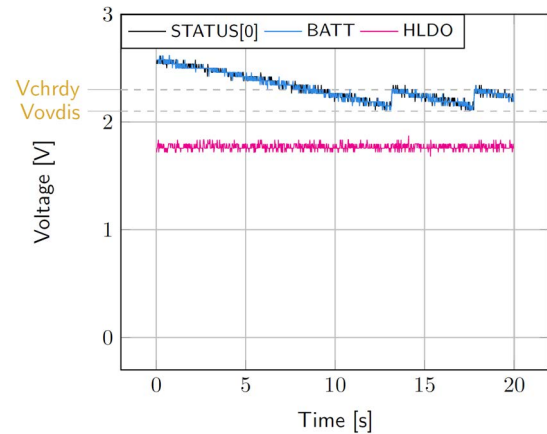

Figure 6: Switching from **SRC** to the primary battery
- **BATT**: Voltage decreases as the system consumes the power accumulated in the storage element. The voltage reaches  $V_{OVDIS}$  and then rises again to  $V_{CHRDY}$  as it is recharged from the primary battery (see Figure 6).
- **STATUS[0]**: Never de-asserted as the LDOs are still functional (see Figure 6).
- **HVOUT**: Stable and not affected by switching on the primary battery (see Figure 6).